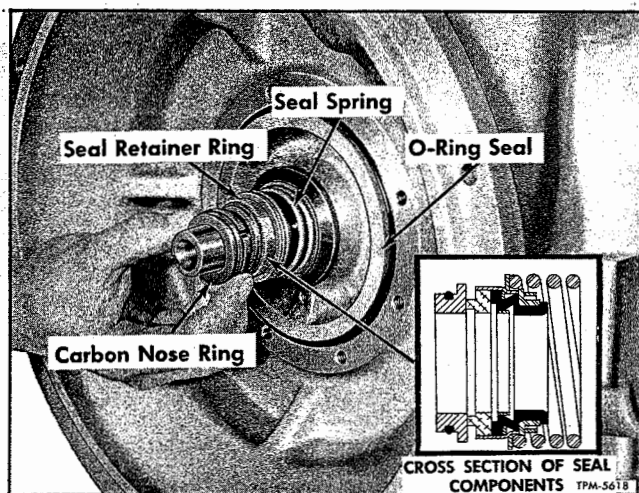

Figure 26—Installing Seal Components
1. Install O-ring seal (13) against compressor or housing around bearing head (fig. 26).
2. Position seal spring on compressor shaft (fig. 26).